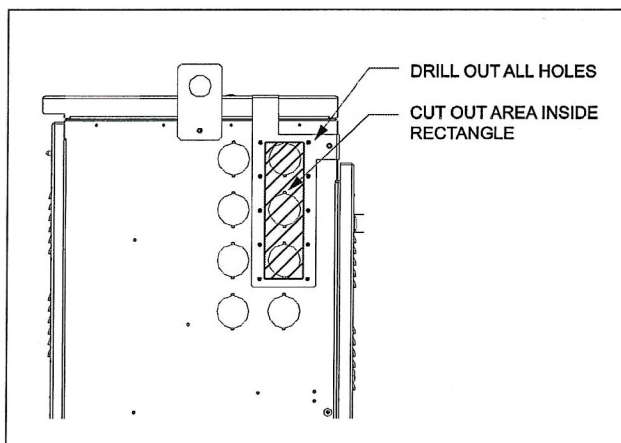

Figure 3 Mark Locations
2. Use a marking utensil to mark the locations of the mounting holes and to trace the inside of the rectangle in the center of the template (Figure 3).